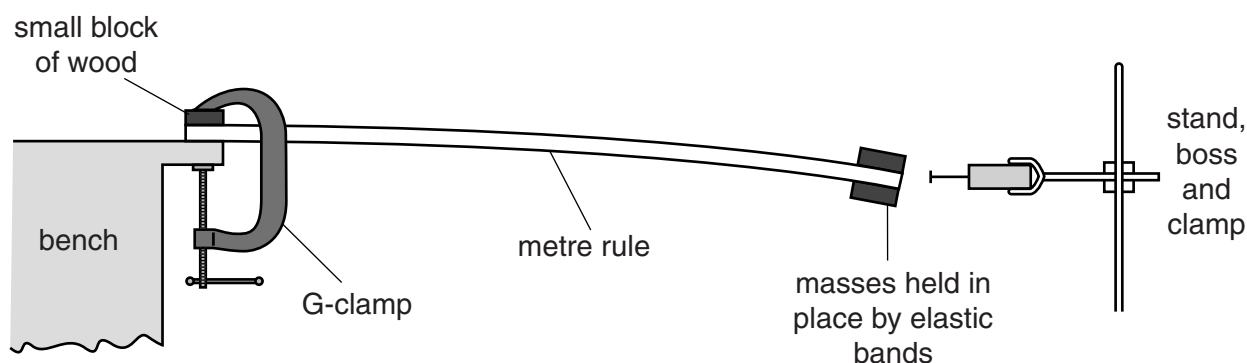

Fig. 2.1
2. The Supervisor should clamp the metre rule at the edge of the bench, as shown in Fig. 2.1. The rule should be clamped at the 5.0 cm mark so that 95.0 cm of the rule overhangs the bench. The edge of the block of wood should be at the 5.0 cm mark above the rule and the edge of the bench should be at the same point below the rule, so that a well defined edge is produced. The block of wood should be held in place by the G-clamp. During the experiment, the candidate will move the rule so that the edge is at the 15.0 cm mark on the rule.
5. The Supervisor should clamp the optics pin and cork horizontally at the equilibrium height of the masses attached to the rule, as shown in Fig. 2.1. If stands of sufficient height are not available, then the stand may need to be placed on a laboratory stool.
6. At the changeover the Supervisor should re-clamp the metre rule at the 5.0 cm mark on the rule, and place the optics pin and cork horizontally, as shown in Fig. 2.1.